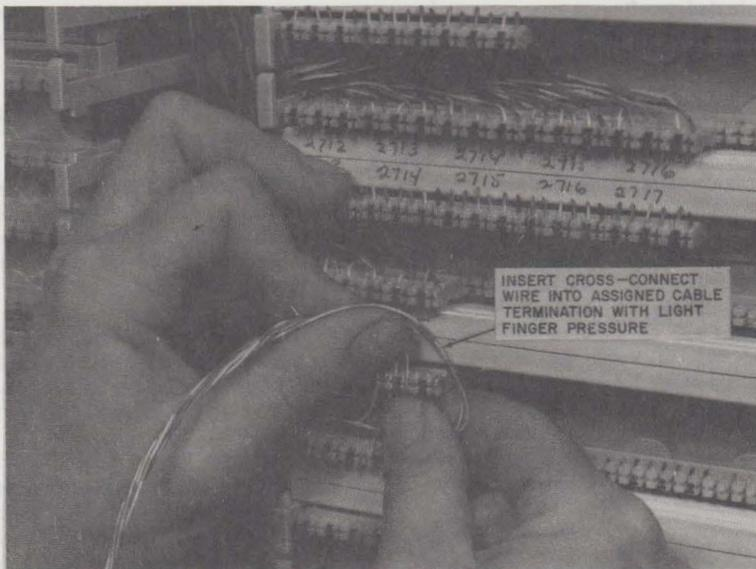

Fig. 23—Inserting Cross-Connect Wire
3.19 Insert the F-type, 24-gauge cross-connect wire into the connecting block slots as shown in Fig. 23. Light finger pressure is sufficient to insure retention of the wire in its proper location. **Leave 2 inches of slack in the wire for tracing and repairing.** Cross-connect wire may be routed through either fanning strip for shortest wire runs.